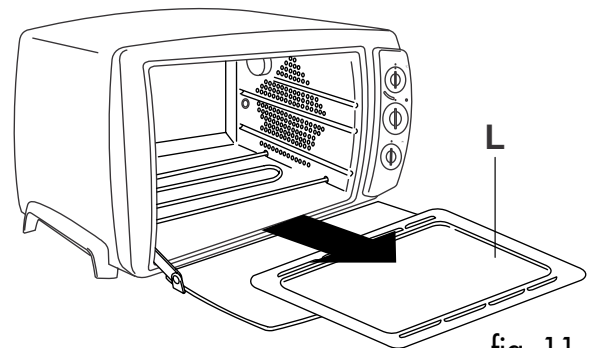

fig. 11
Remove the crumb tray (L) by pulling it outwards (see Fig. 11). In case of difficulty, wet the outside parts of the tray. Remove any dirt with a damp cloth. Dry thoroughly and then **put the tray back in place**.